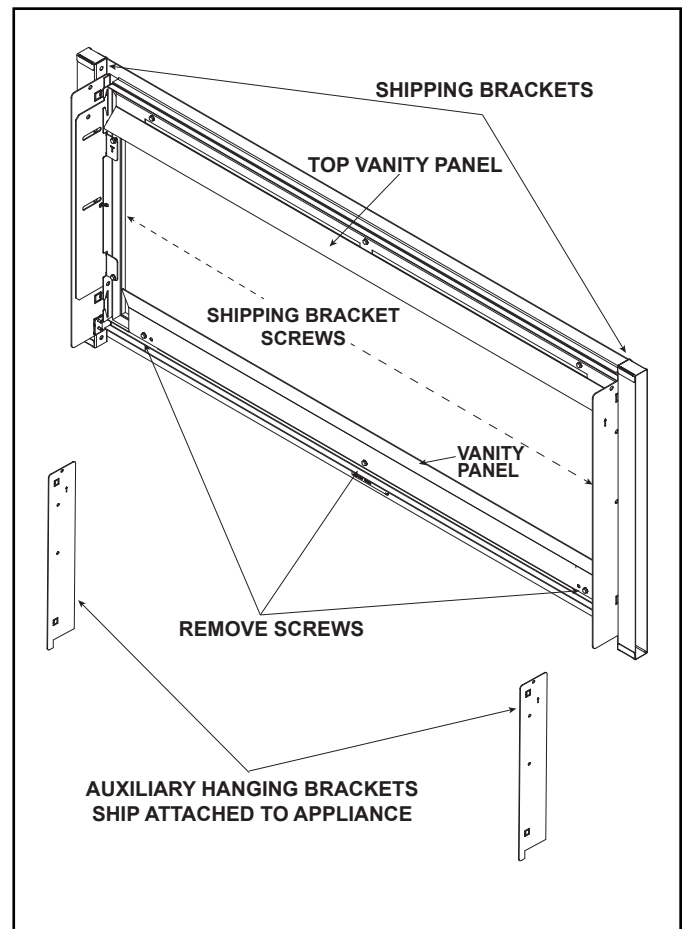
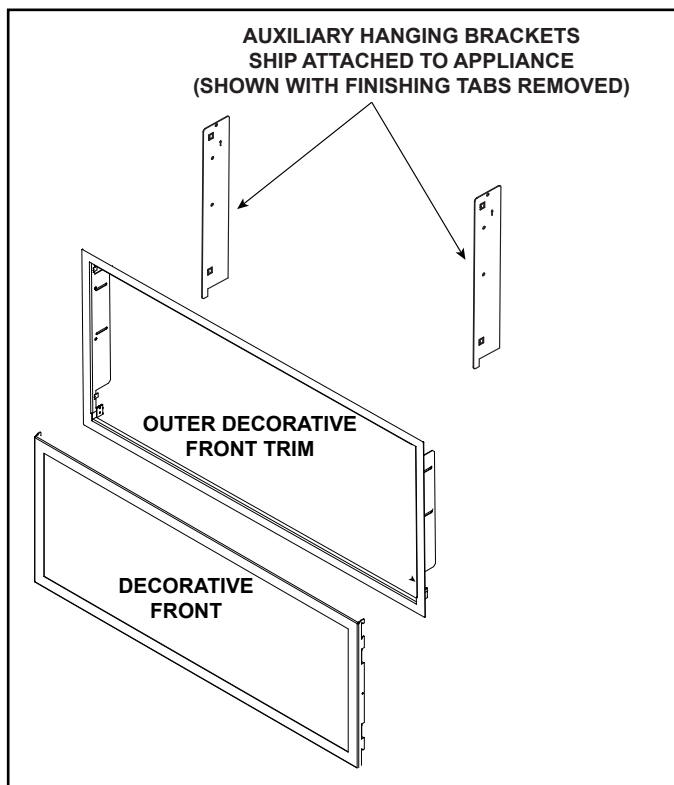

Figure 1. Decorative Front Assembly - Shown as Shipped
Figure 3. Component Identification
2. Remove the three screws that secure the glass vanity panel to the back of the decorative front. Discard screws. See Figure 1.
4. Shipping brackets are attached to the left and right sides of the decorative front. See Figure 1. Remove the two screws and discard the shipping brackets and screws. Remove inner decorative front and set aside. See Figure 3.
The installation of the CFTF decorative front is determined by the finishing method applied during the appliance installation. The design of the CFTF decorative front allows for installation with or without the outer decorative front trim. If the outer decorative front trim is not used, then the auxiliary hanging brackets must be used. See Figure 3.